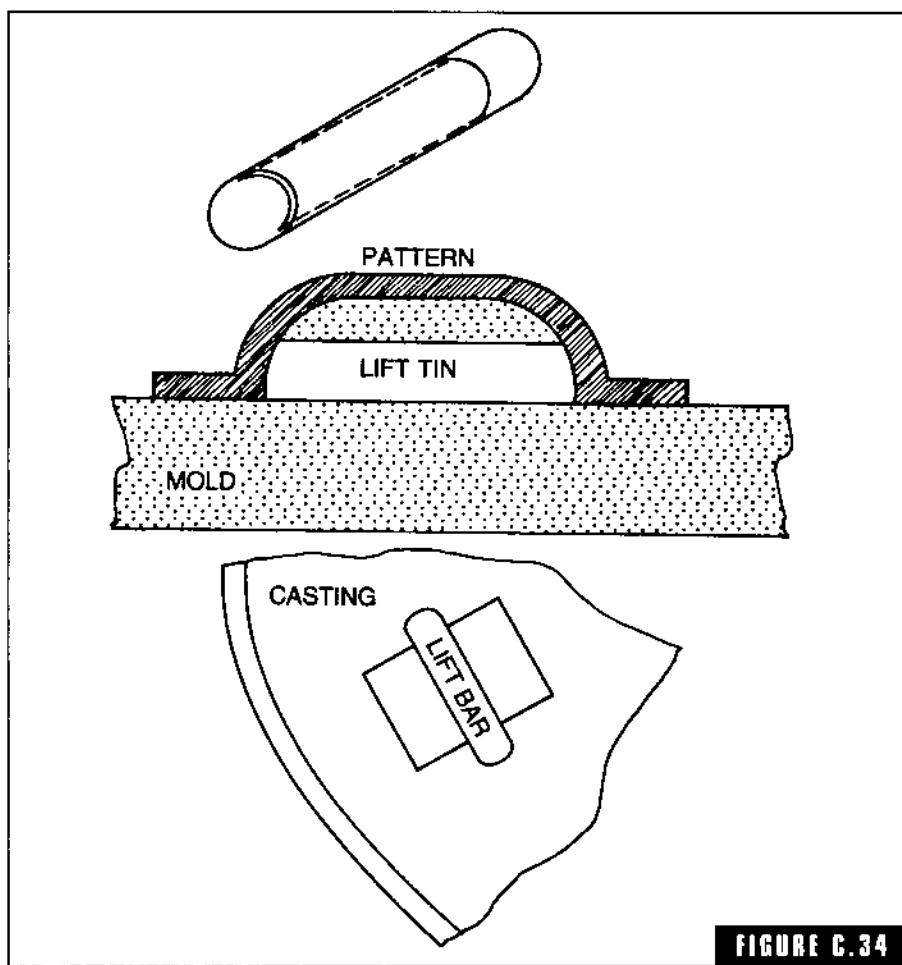

FIGURE C.34
**cover lifts** Tin forms used to cast the lifter bridge on stove covers (Fig. C-34). However, the clever engineer or inventor can find many other uses for them.